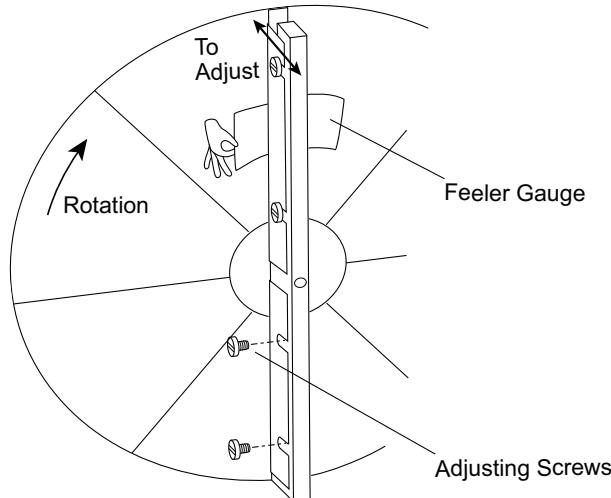

Fig. 48 —Diameter Seal Adjustment
1. Loosen diameter seal adjusting screws and back seals away from the wheel surface. See Fig. 48.